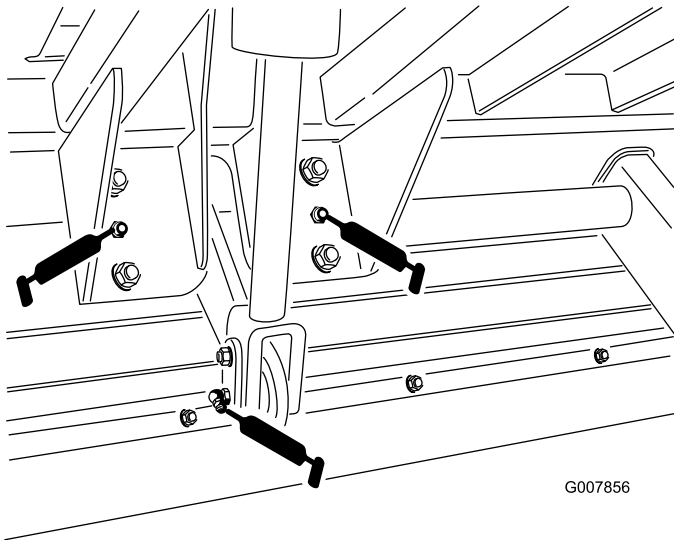
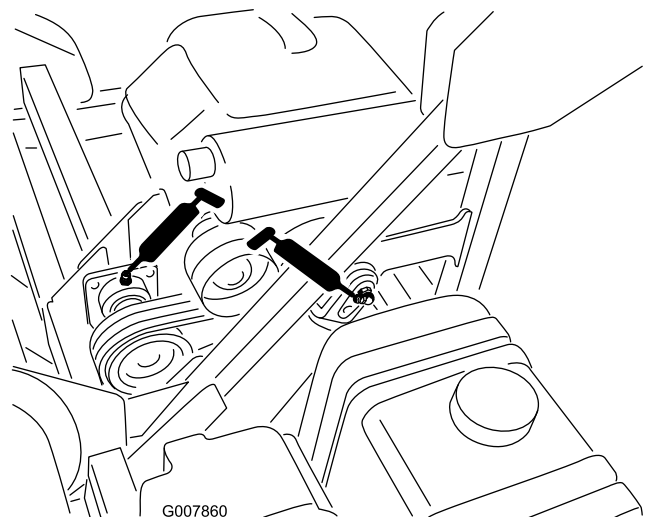

Figure 38
Figure 41
- Lift cylinder (2); refer to Figure 38 and Figure 41.
- Lift axle (2); refer to Figure 38.
- Jack shaft (2); refer to Figure 41.